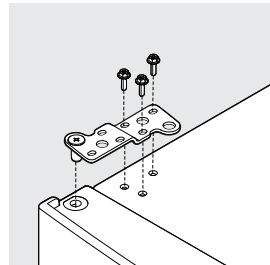

Figure 13
14. For models without the hinge cover, flip the hinge cover over and attach it using a 5/16 in. socket (see Figure 13).